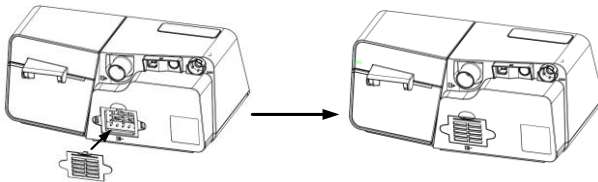

Fig. 16-8
(2) Install the filter cap containing the air filter to the device, as shown in Fig. 16-8.